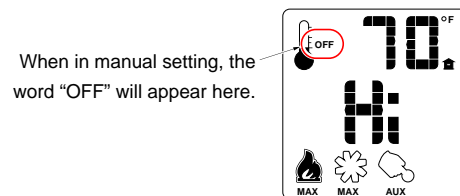

Figure 6
- **MANUAL ON/OFF** – The burner will turn on and off using the remote (see Figure 6). Press the On/Off button to control the burner. When off, the display will only show the current temperature.